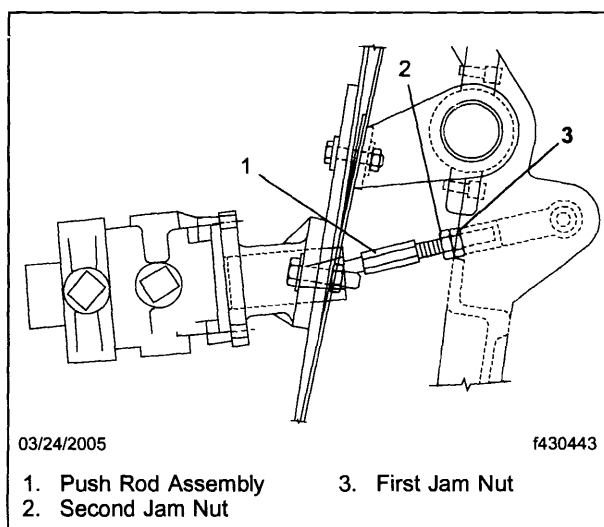

Fig. 2, Push Rod Adjustment
7. After the stop bracket has been positioned and locked, adjust the length of the push rod assembly. Hand-tighten the push rod until there is no free-play and it is no longer free to rattle. See **Fig. 2**.